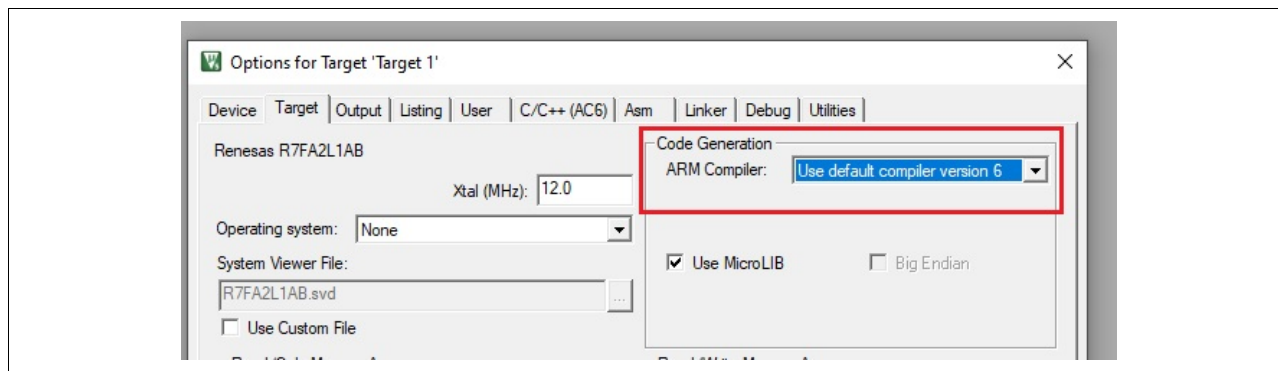

Figure 48. Arm Compiler Version
2. Set the **ARM Compiler** version as shown in Figure 48.